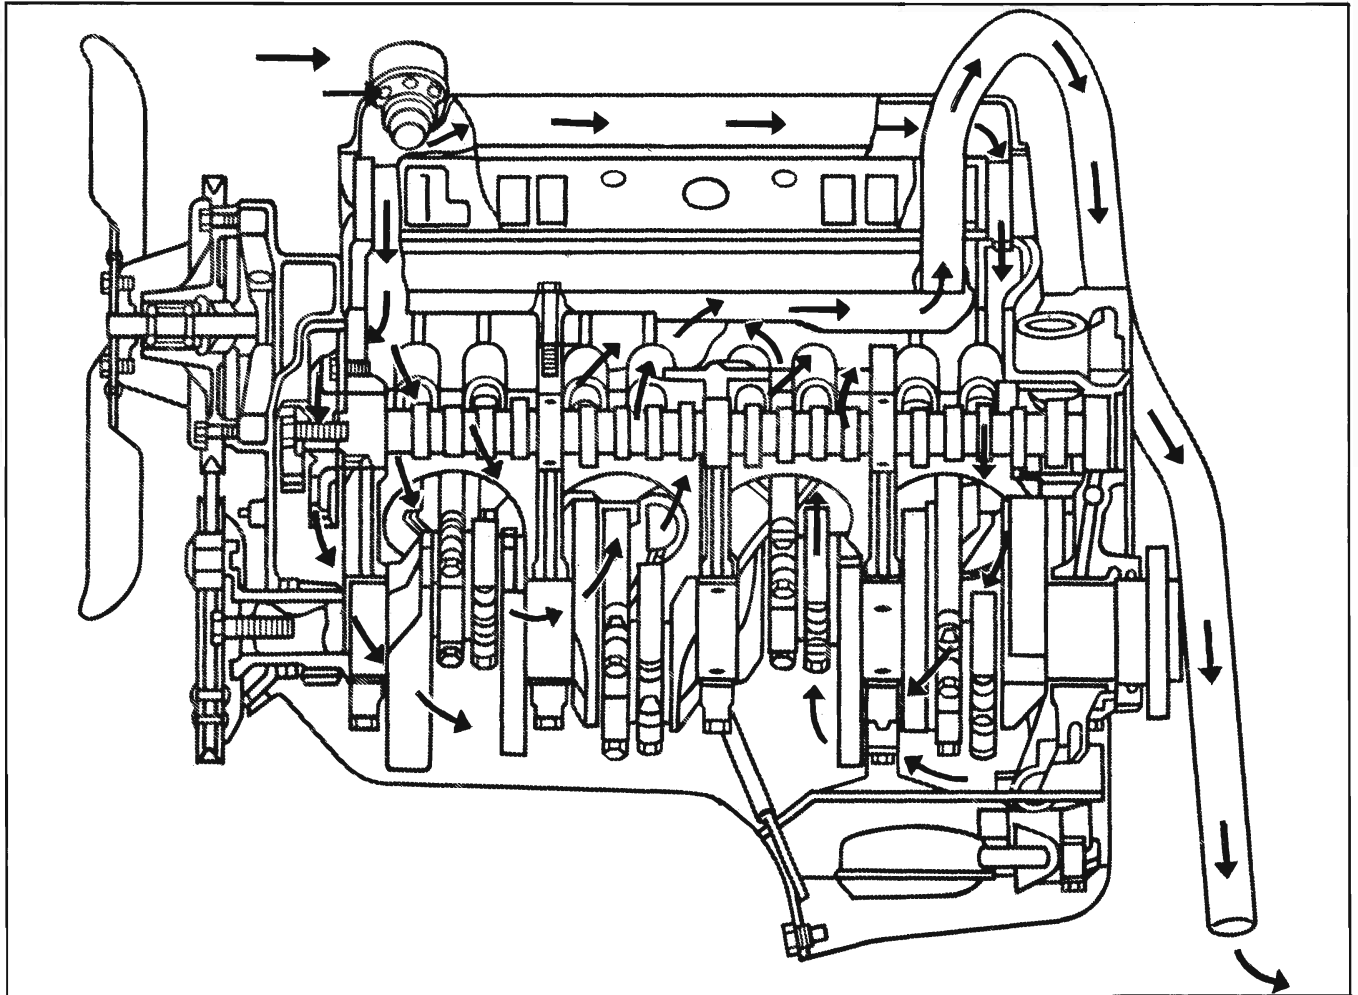

Fig. 6A-9 Crankcase Ventilation System
4. Hand tighten filter on hollow center stud until gasket contacts filter base (Fig. 6A-10) then complete tightening with additional $\frac{2}{3}$ turn of filter but **DO NOT OVER TIGHTEN**. Use care when tightening to prevent "bunching" of gasket. **DO NOT USE WRENCH TO TIGHTEN CARTRIDGE.**